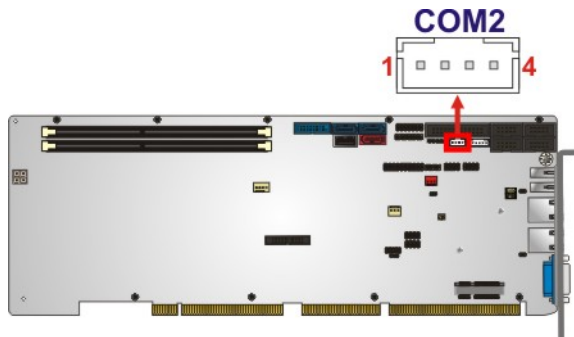

Figure 3-24: RS-422/485 Connector Location
- CN Location:** See Figure 3-24